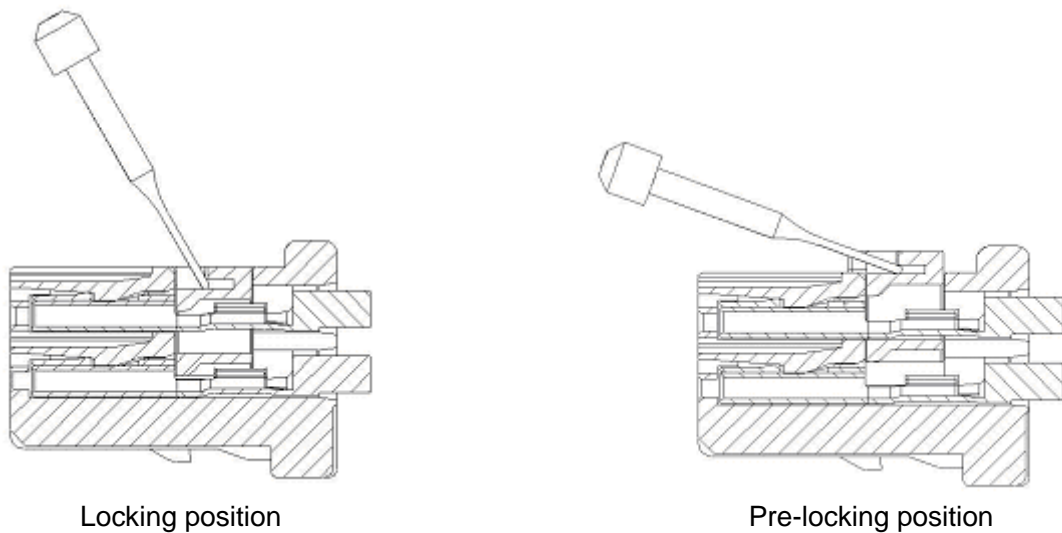

Fig.18
- ② Insert the precision driver into the circled parts as shown in Fig.-16, and raise the retainer due to leverage until an audible click is heard. (Fig.18)